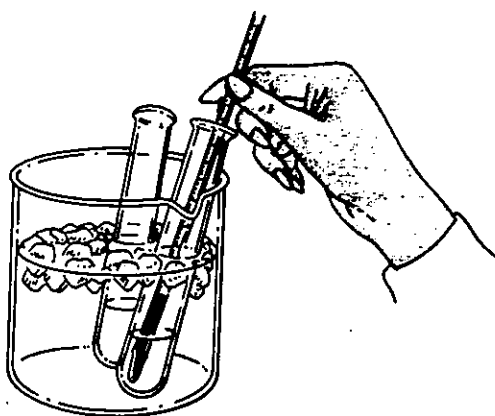

Figure 32-1
8. Place the two test tubes in the ice-water bath and let them stand until the solutions are at the same temperature as the ice water (Figure 32-1). *Always rinse and wipe the thermometer after removing it from a solution.*